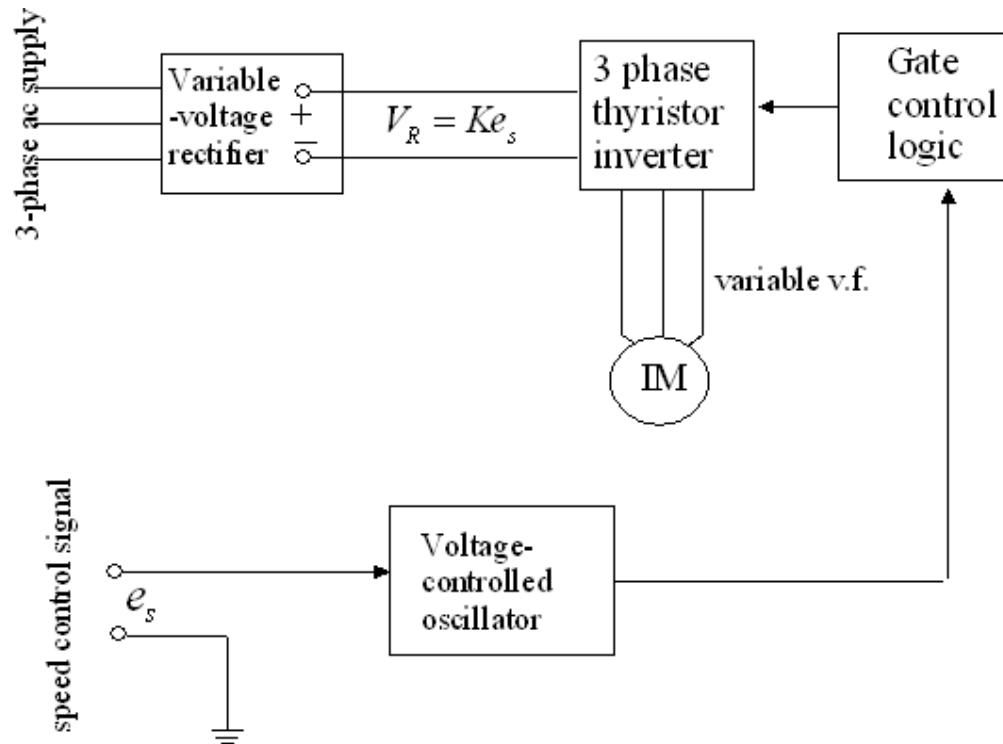

Fig. H1 Frequency-control of induction motor speed;
**Q.9** List the advantages of nuclear power plants over conventional thermal power plants. (4)
**Q.10** Discuss briefly the solid state circuits used for the stator voltage control of induction motor drives. (7)
**Ans :** Fig H1 shows the block diagram for a scheme of stator voltage control. Here the ratio  $V/f$  is kept constants, with the frequency being varied by means of an inverter. This in turn will help in maintaining the field flux constant. The rectifier and inverter are rigged by means of the thyristors or GTOs or MOSFETs. Because of its high cost, this type of control is justified only for drives wherein rugged, maintenance-free characteristics of the induction motor are essential.